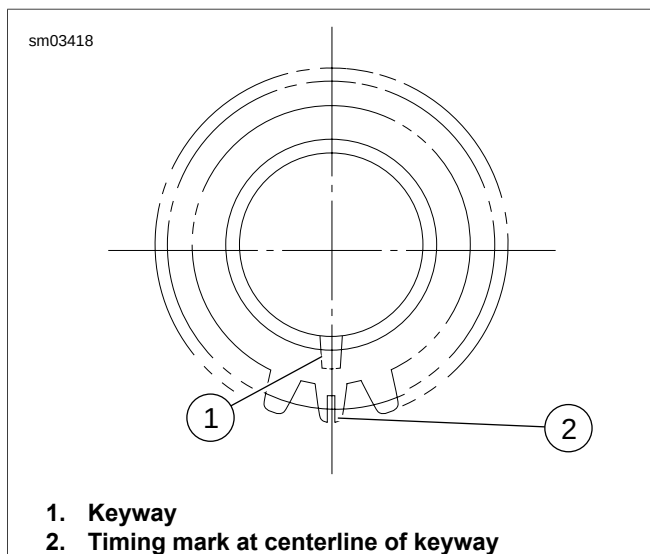

**Figure 3-164. Gearcase and Valve Train Components: XR 1200X**
1. See Figure 3-164. Make sure t-key (9) is installed on fly-wheel pinion shaft. Install spacer (6) and pinion gear (5) on pinion shaft.
2. See Figure 3-164. Clean threads on pinion shaft and nut (4). Apply several drops of LOCTITE 262 HIGH STRENGTH THREADLOCKER AND SEALANT (red) to threads of nut.